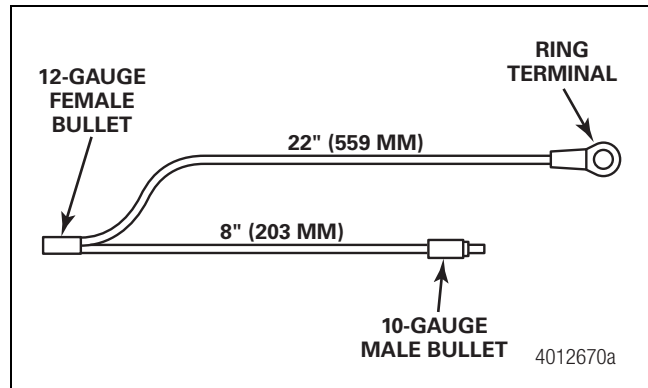

Figure 2
2. Cut 8" (203 mm) of 10-gauge wire from the 30" (762 mm) piece. Figure 2.